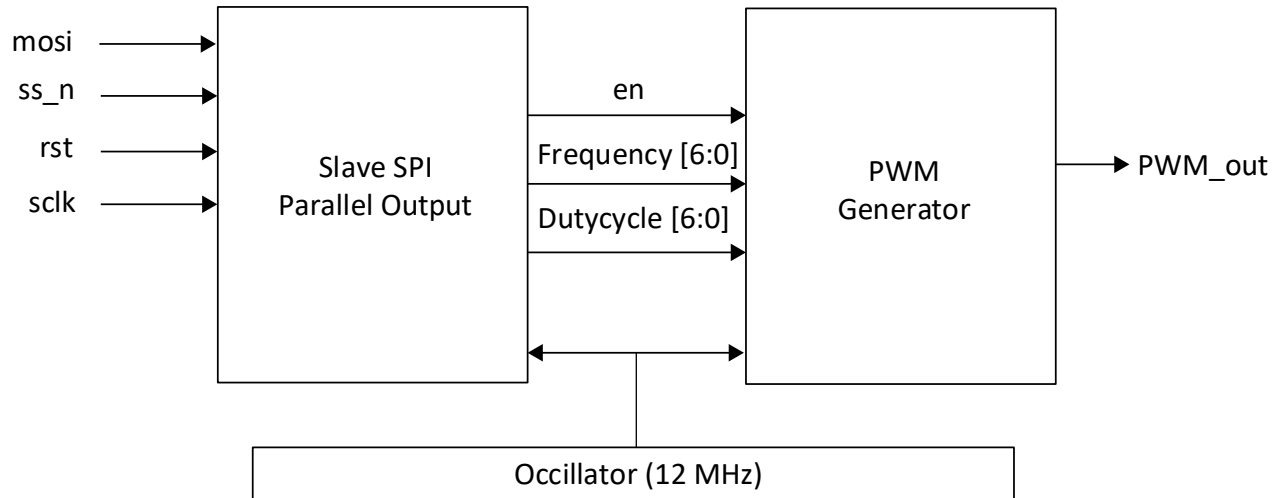

Figure 2.1. Top-Level Block Diagram
Figure 2.1 shows the block diagram of the SPI Slave to PWM Generation reference design.
The design has two (2) major blocks as shown in Figure 2.1. These modules include logic for SPI Slave and Pulse Width Modulator (PWM). The SPI slave sclk operates at 3 MHz and positive clock polarity (CPOL). It converts serial data to parallel. The PWM is running at 12 MHz system clock and receives data from SPI Slave and calculates counts for frequency and duty cycle relative to the system clock.